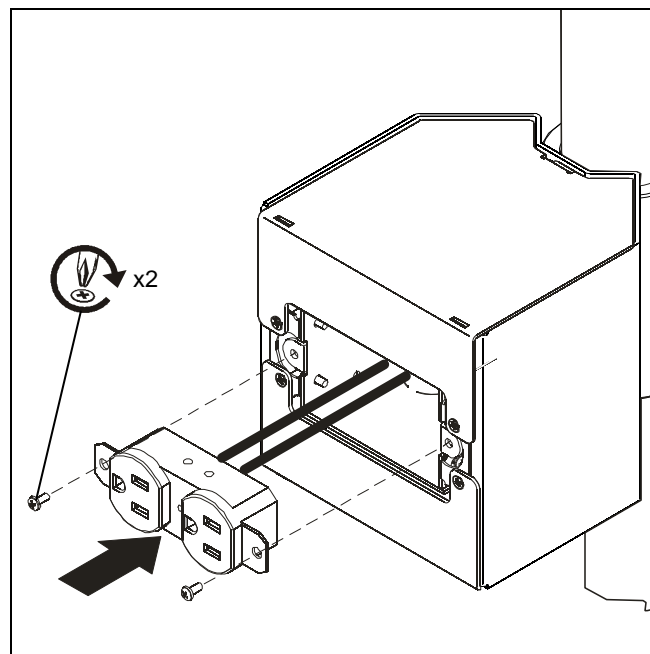

Figure 7
9. Connect wires to plug and secure plug to J-Box using two Phillips pan head screws (provided with plug). (See Figure 7)